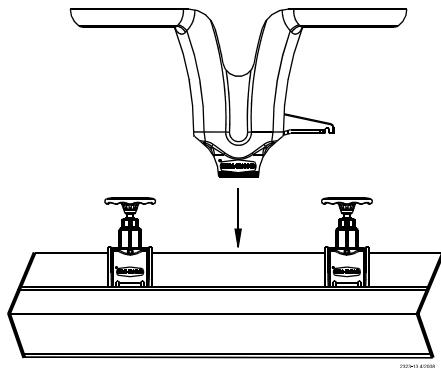

Figure 18. ADVANTI-FLOW Cup Installation
3. Turn pipe assembly over and install cup over the water pipe. The cup is to be located between a pair of saddle assemblies, See **Figure 18**.